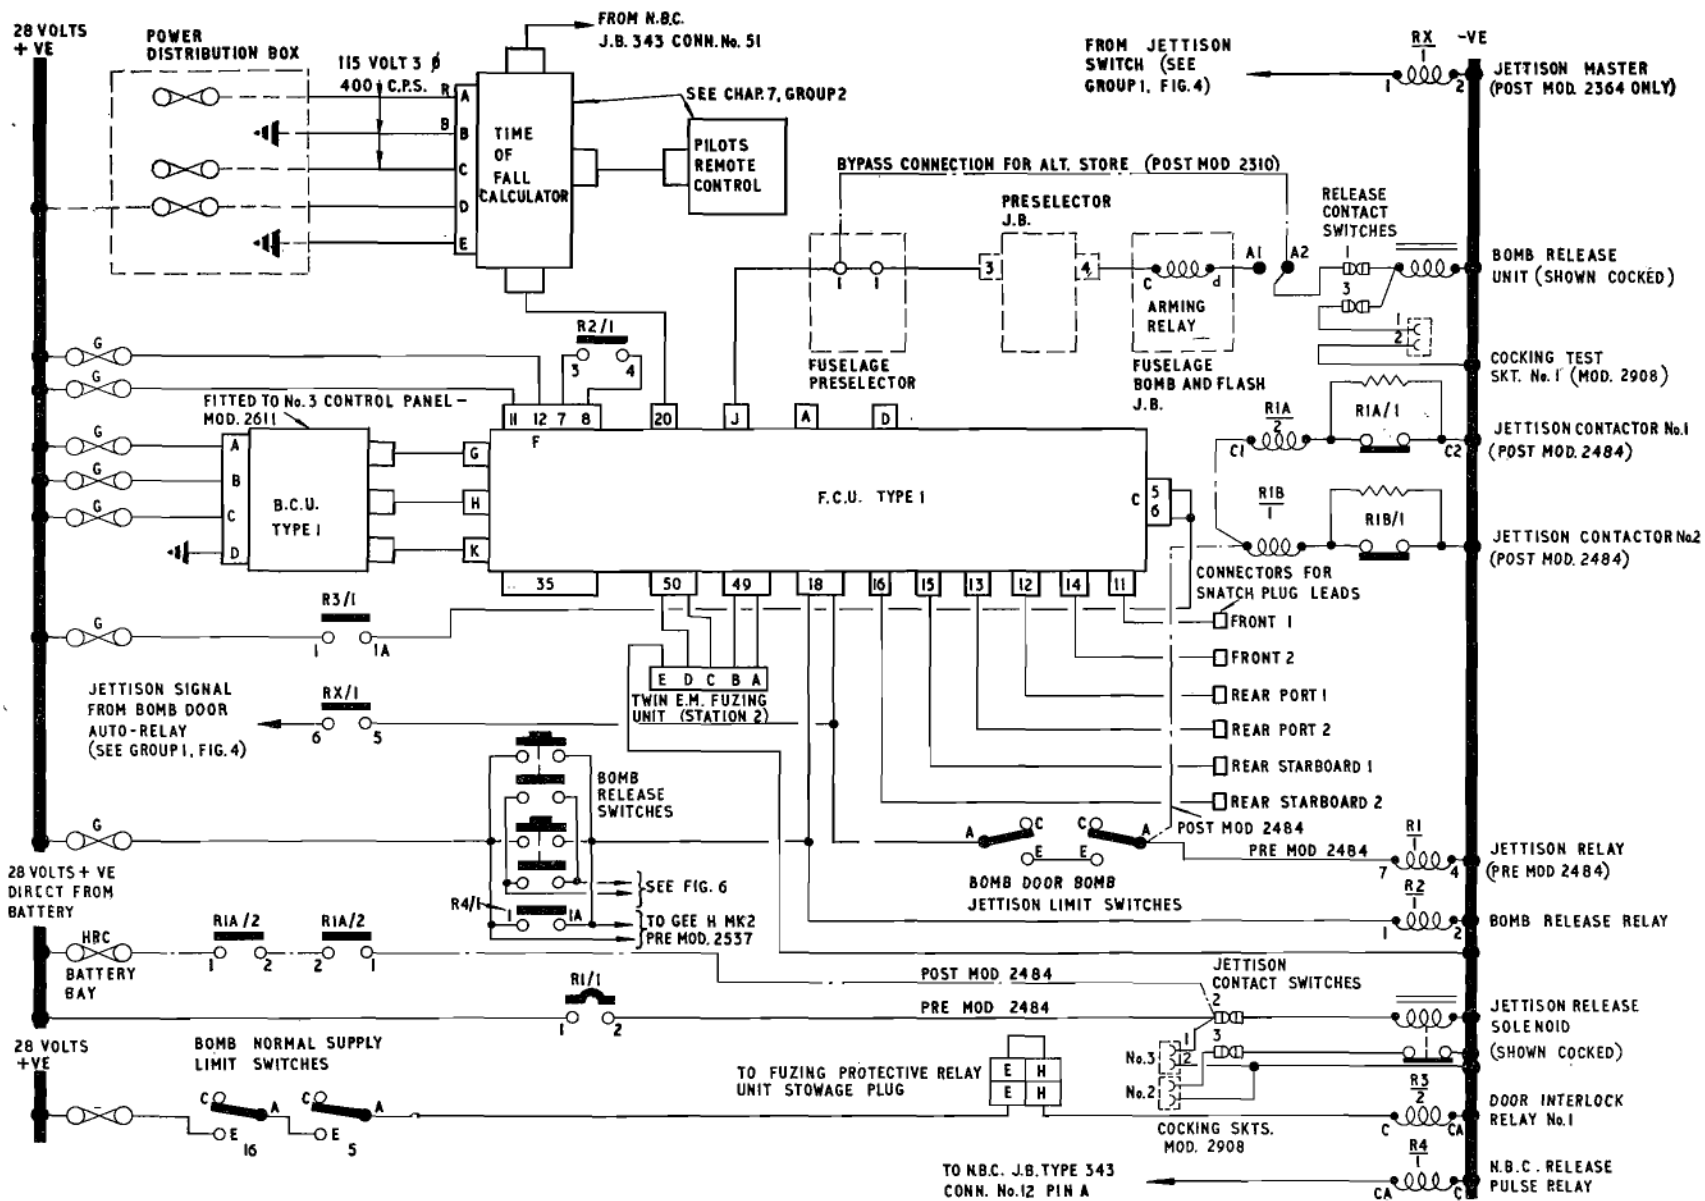
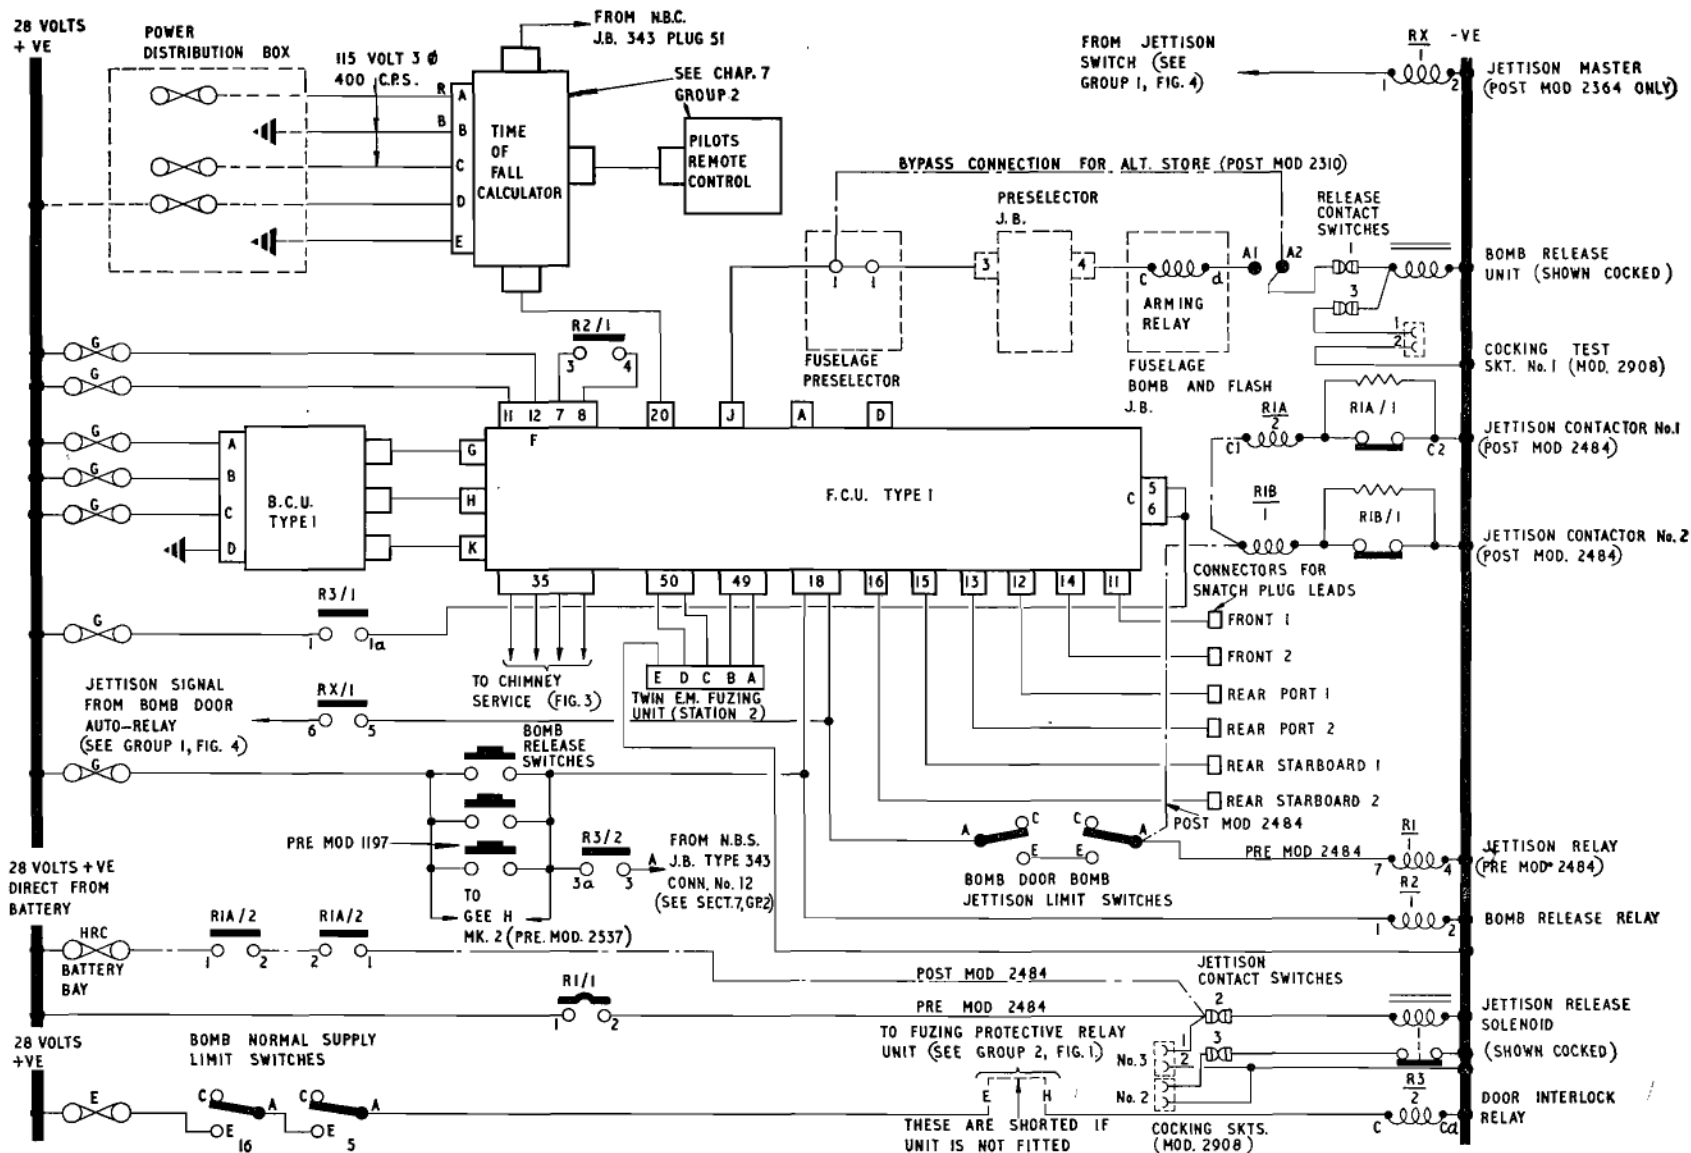

Fig. 1. 10,000 lb. M.C. Alternative bomb control (pre-Mod. 2612, 2645, 2646 or 2725)
Fig. 4. 10,000 lb. M.C. Alternative bomb control (post Mod. 2612, 2645, 2646 or 2725)
Normal release (fig. 1 or 4)
14. When the bomb doors are fully open, the bomb normal supply limit switches (Nos. 16 and 5 in series) will be made across their contacts A-E to connect a supply from panel E through pins E and H of the E.L. Fuzing Protective Relay Unit 12-way connector (these are linked by the stowage for the connector if the unit is not fitted) to the coil R1 of the door interlock relay (or door interlock relay No. 1, post Mod. 2612, 2645, 2646 or 2725 (fig. 4). At the same time the bomb jettison limit switches are made across their contacts A-E to complete the circuit between the contact R3/1 (normally open) of the jettison firing relay in the B.C.U. and the jettison relay R4 (or jettison contactors R4A and R4B in parallel (post Mod. 2484), at the forward end of the bomb bay.
15. The door interlock relay closes its contacts (1 and 3); contact R1/2 (1-1a) connects a supply from panel G through the F.C.U. (plain connector C, pins 5 and 6) to the MASTER switch on the B.C.U. Pre-Mod. 2612, 2645, 2646 or 2725 contact R1/1 (3-3a) closes the N.B.S. release pulse circuit from the N.B.S. junction box Type 343 to the firing circuits thus setting the system for N.B.S. controlled bomb releases if required (fig. 1). Post Mod. 2612, 2645, 2646 or 2725, the release pulse from the N.B.S. equipment is fed to an additional relay R5 (N.B.C. release pulse relay); contact R5/1 of this relay is in parallel with the bomb release switches (fig. 4).